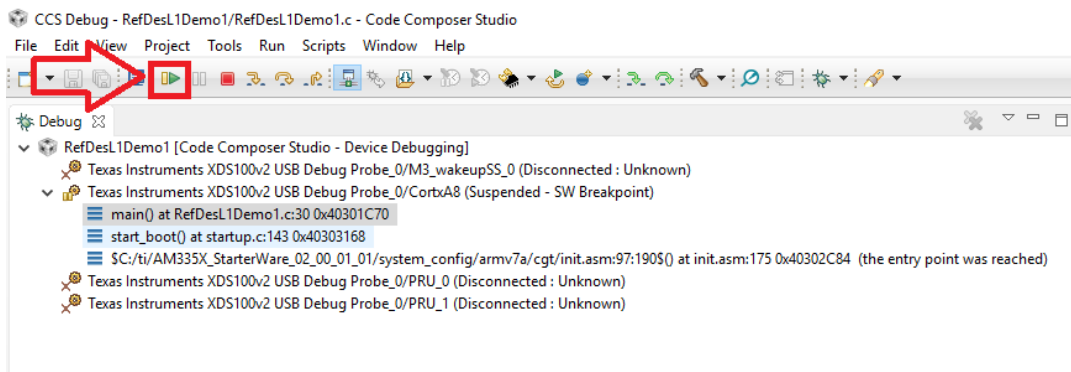

Figure 77 CCS Run button
- Once the program gets loaded, you should see the below screen (Figure 77). Hit the **Resume** button to run the program on the board.